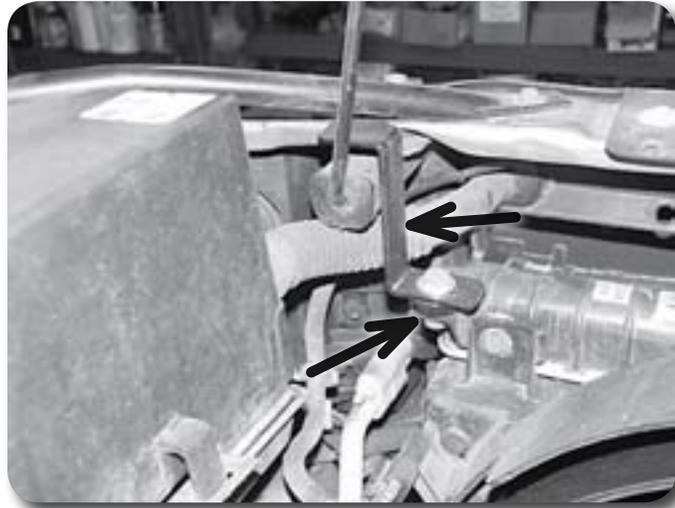

Figure 22
37. Locate the four core support bolts (two per side) near the upper corners of the radiator. Working on one side at a time, remove the two bolts and install the provided radiator brackets with 8mm x 45mm bolts and 5/16" USS washers. Leave hardware loose. The bracket should run down toward the radiator and to the inside of the vehicle **Figure 22**.
38. With both radiator brackets loosely installed, position a provided urethane stem bushing in the radiator flange hole located just under the bracket. The lip of the bushing will fit snug down into the hole. Fasten the bracket and bushing to the radiator with a 3/8" x 1-1/4" bolt, nut and 5/16" USS washers. Tighten the 3/8" hardware until the bushing begins to swell **Figure 22**. Go back and torque the 8mm bolt to 22 ft-lbs.